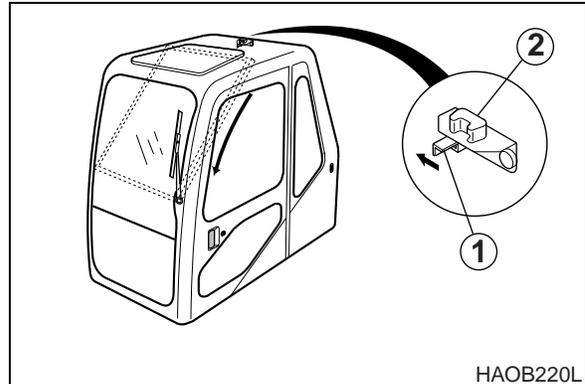

Figure 96
4. Holding upper handle of front window with right hand, push release lever (1, Figure 96) (in direction of arrow) to unlock catch (2).